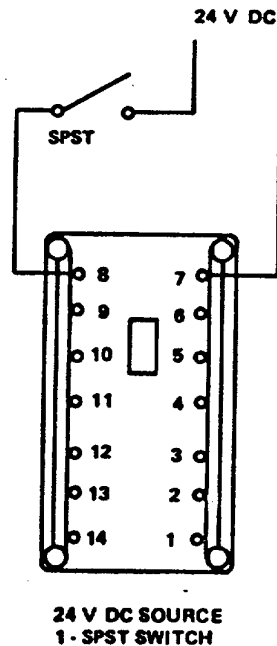

Figure 4-11. Component Assembly Panel, Relay K1 and K50, Test Setup
- a. Test. To test relays K1 and K50, connect a 24V DC power source and a SPST switch as shown in figure 4-11.
- (1) Close SPST switch. With an ohmmeter, check for an open circuit between terminals 1 and 2 and terminals 13 and 14. Meter should indicate continuity between terminals 3 and 4, terminals 5 and 6, and terminals 11 and 12.
- (2) Open SPST switch, With an ohmmeter, check for continuity between terminals 1 and 2 and terminals 13 and 14. Meter should indicate an open circuit between terminals 3 and 4, terminals 5 and 6, and terminals 11 and 12. If relays fail this check, repair or replace the defective relay.